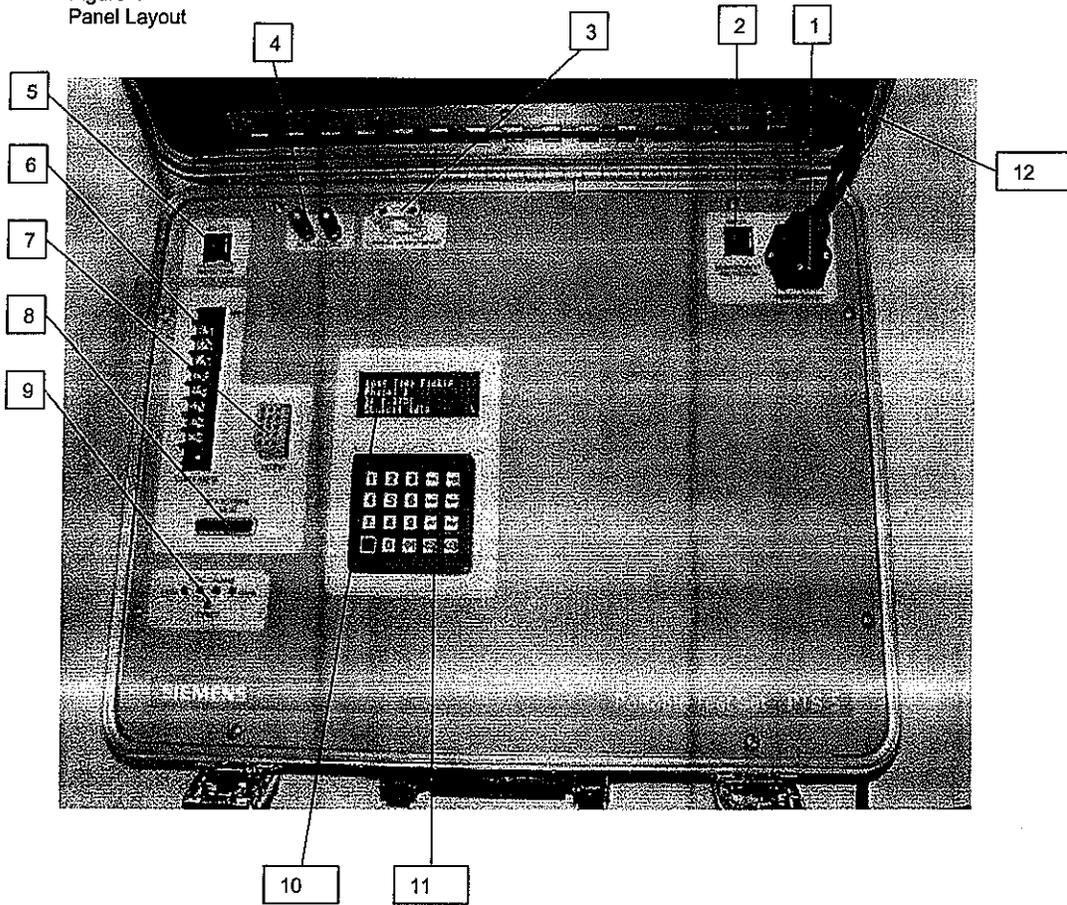

Figure 2
- 7) OUTPUT (15-pin Molex connector): Attach the test cable here. The test cable is used for tests where the STIII is attached to a circuit breaker. See Figure 2 which shows how to properly attach the test cable.
- If the STIII is completely removed from a breaker, then attach the fanning strip to the terminal block on the front panel per Figure 3. If the STIII is still attached to the breaker, connect the leads per Figure 2 to the test connector on the front of the breaker.